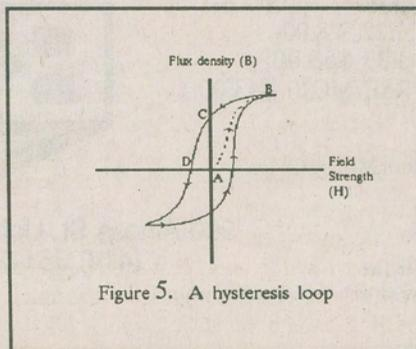

Figure 5. A hysteresis loop
Figure 5 shows a graph called a Hysteresis Loop where the vertical axis is labelled B for flux density and the horizontal axis is labelled H for field strength. An interesting thing happens when you use an electromagnet to magnetize a ferromagnetic material: To begin with, before any current flows through the coil, there is no magnetic field strength present and so no flux density (Point A). As current is applied field strength is created by the electromagnetic field set up and this causes a certain flux density to be present in the ferromagnetic material (this material could be the core of the electromagnet or adjacent but within the field). As the field strength (H) is increased eventually the flux density levels off and even though H is increased B will stay the same. (Point B) This is called flux saturation.
Now let's start to reduce the current through the coil (and hence the field intensity). The arrows in Figure 5 show that the flux density does not follow the same path back to zero. In fact, when the field strength is zero B is still quite high. (Point C). Why would this be?